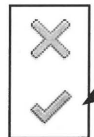

Fig. 04.125.
- Klik *Finish Edit Mode* (Fig. 04.125).